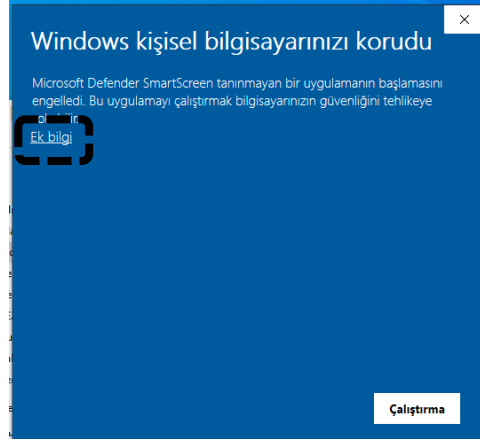

Figure A1: MS Smart Screen warning - 1
- When you are installing EE319K program, if you get a MS Smart Screen warning in the Figure A1, you will click **Additional info (Ek bilgi)**